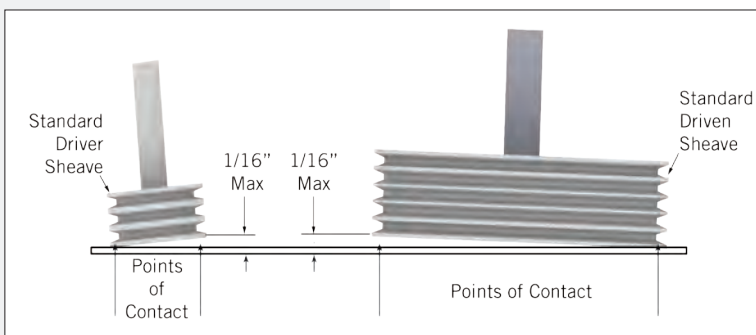
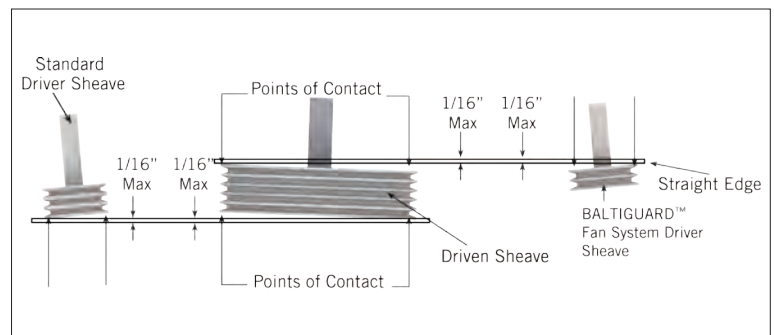

Figure 4a. Standard Drive Alignment
Figure 4b. BALTIGUARD™ Fan System Drive Alignment
- Place a straight edge across the driver and the driven sheaves as shown in **Figure 4a** for standard drives and in **Figure 4b** for the BALTIGUARD™ Fan System.
- The straight edge should contact all four points as shown in **Figure 4a** indicating that the drives are properly aligned.